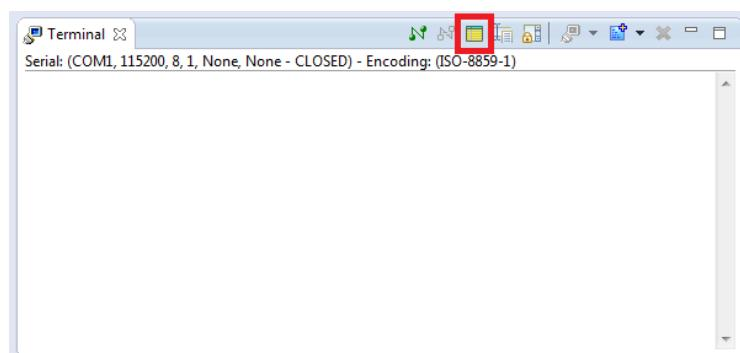

Figure 13-8. ARM DS-5 Serial Terminal
66. Although we can continue to use the "minicom" program as we previously did in Figure 13-5, we will use the built-in serial terminal available in ARM DS-5 to have all development windows in one area. Go to "Window > Show View > Other... > Terminal > Terminal" to open ARM DS-5's the built-in serial terminal. You should see the terminal shown in Figure 13-8.